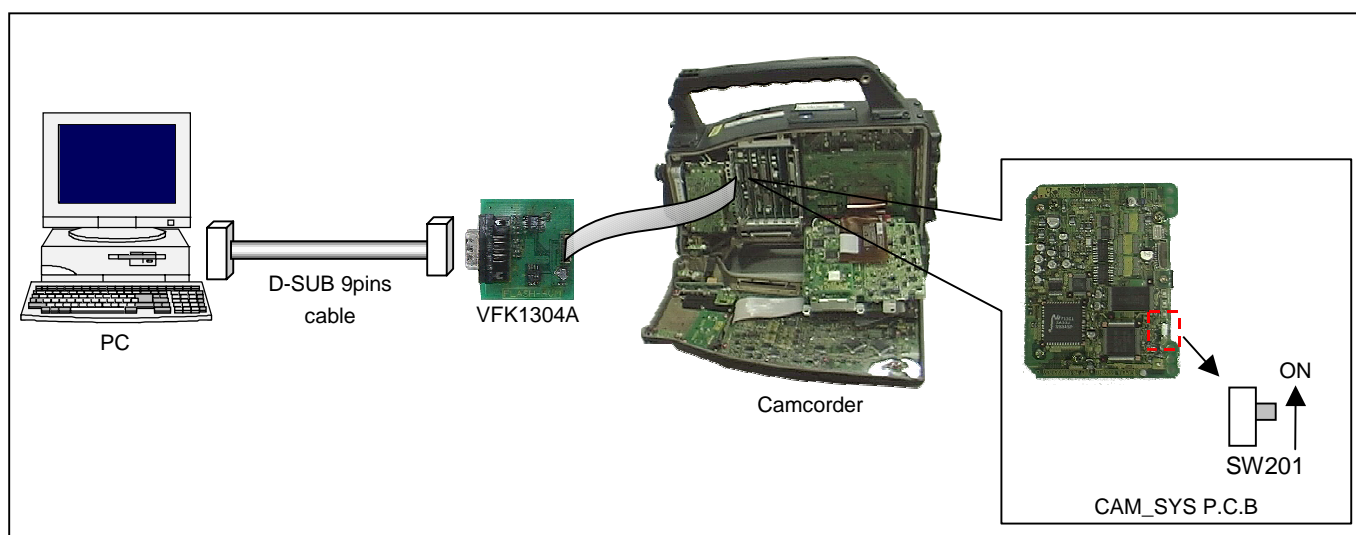

Figure 16-2
1. Connect RS-232C Cable between connector P2 on VFK1304A and COM1 port on PC. (Refer to Figure. 16-2)
- 1. Connect RS-232C Cable between connector P2 on VFK1304A and COM1 port on PC. (Refer to Figure. 16-2.)
1. Connect RS-232C Cable between connector P2 on VFK1304A and COM1 port on PC. (Refer to Figure. 16-2.)